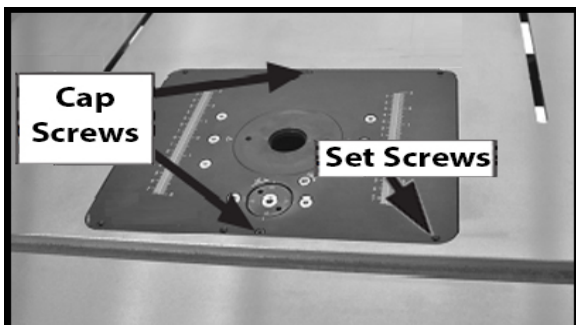
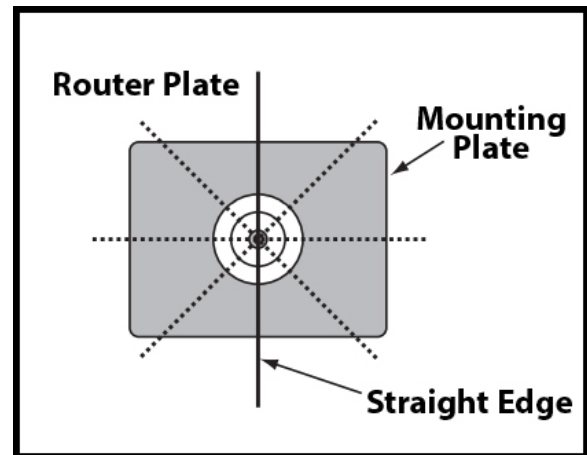

Figure 18
Figure 19
6. Set the Router Lift Assembly into the table opening with the mounting plate flush with the top surface. (Fig.18)
7. To align the Router Lift Assembly to the table surface, lay a straightedge across the plate insert and table surfaces in a pattern shown in (Fig.19). Then adjust the set screws (Fig.18) so that the ends of the straight edge lay flat on the surface in all positions of the pattern in (Fig.19).
8. After step (7) is completed, secure the position with the (2) M4-.7 x 16 cap screws shown in (Fig.18).
9. Secure the Dust Shroud to the back of the Fence Base with (2) 1/4-